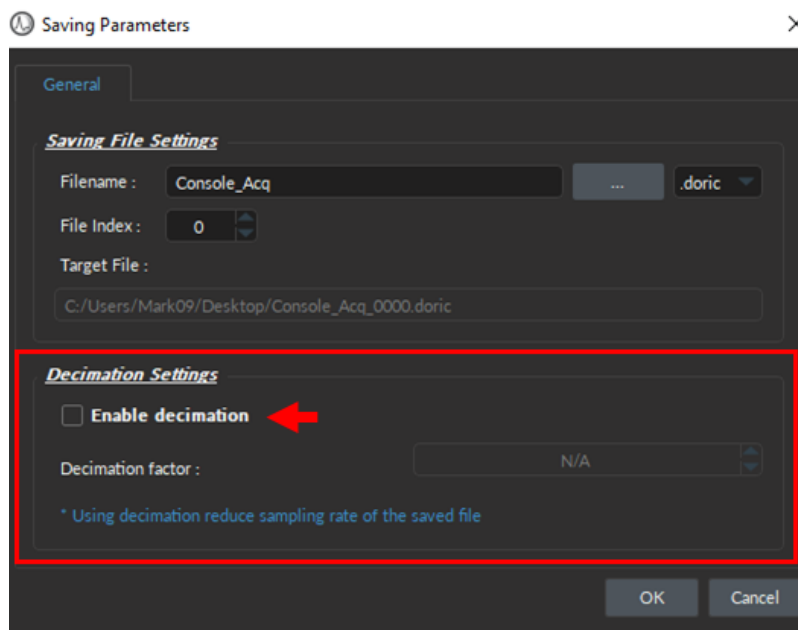

Figure 8.42: Enable/Disable the decimation factor that reduces Sampling Rate of the saved files
- **Note 1:** The saved file **effective sampling rate** is set to 5x the lowpass filter frequency, using a decimation factor (which can be disabled in Saving Options, see Fig. 8.42).